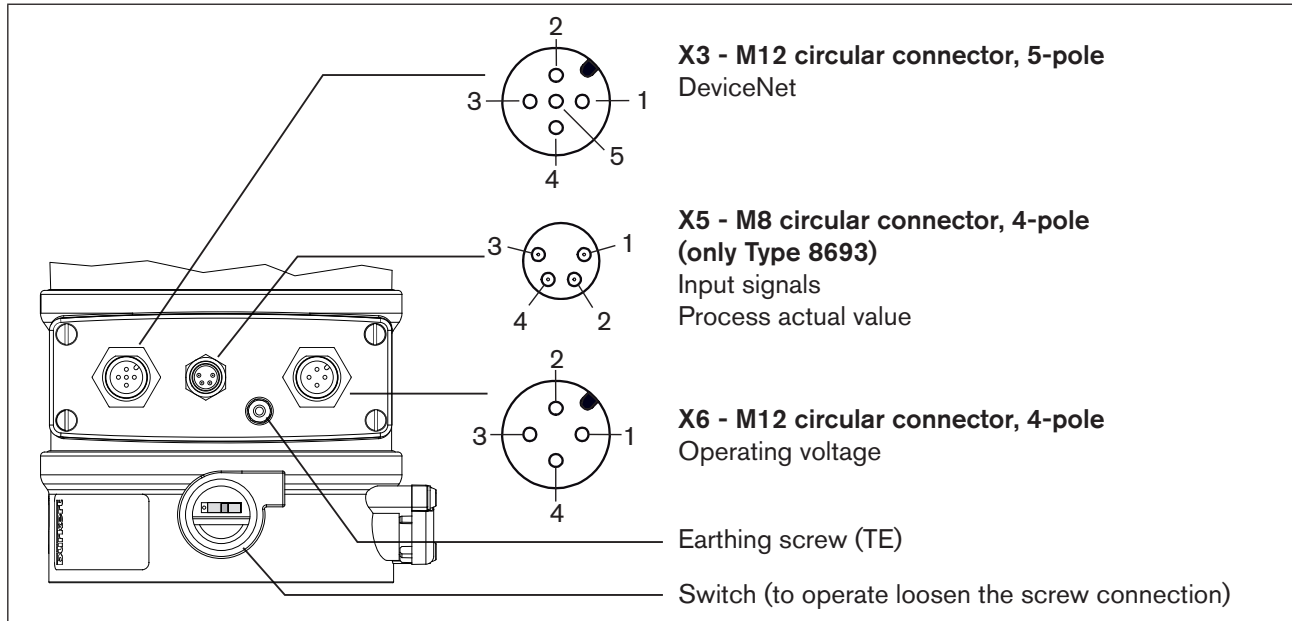

Figure 132: Electrical connection DeviceNet, Type 8692/8693
(see "Figure 132: Electrical connection DeviceNet, Type 8692/8693").
*** The switch is situated under the screw joint (see "Figure 132: Electrical connection DeviceNet, Type 8692/8693").